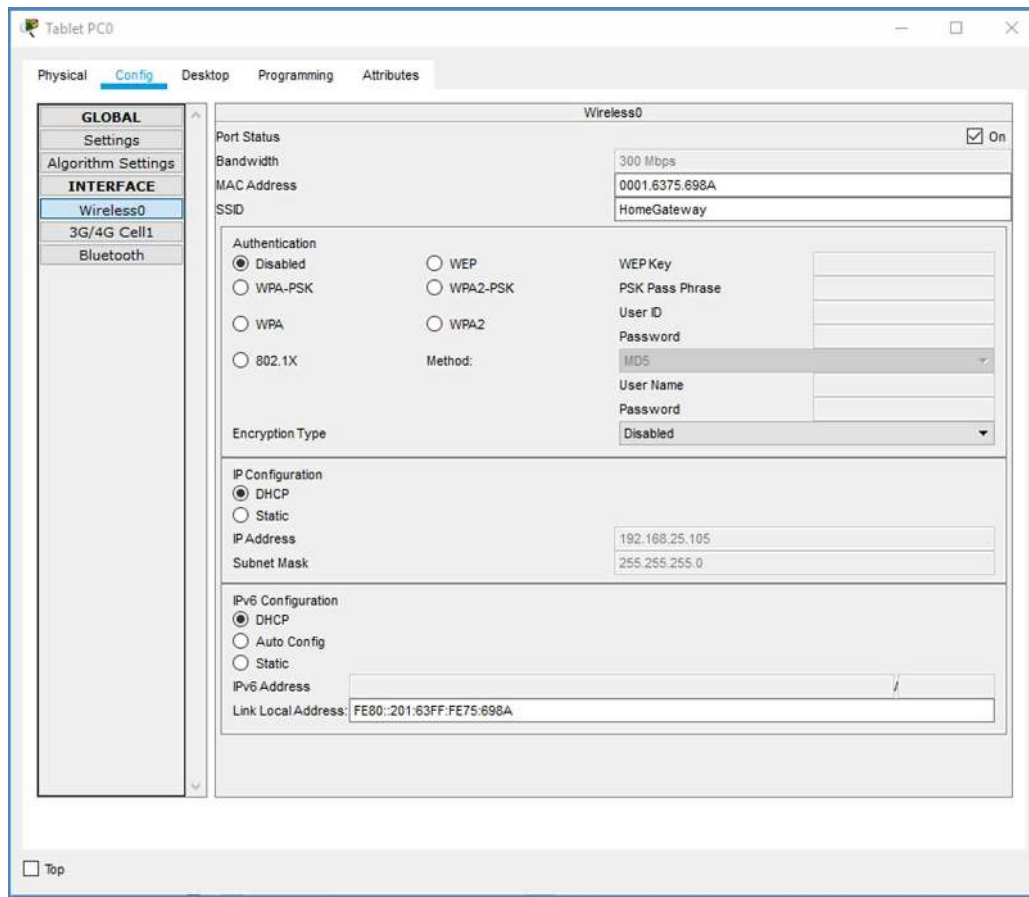

Figure 8.9: Configuring the Tablet's Wireless0 Interface for HomeGateway
- Wait briefly for the tablet to obtain an IP address automatically from the gateway's DHCP server (Figure 8.9).